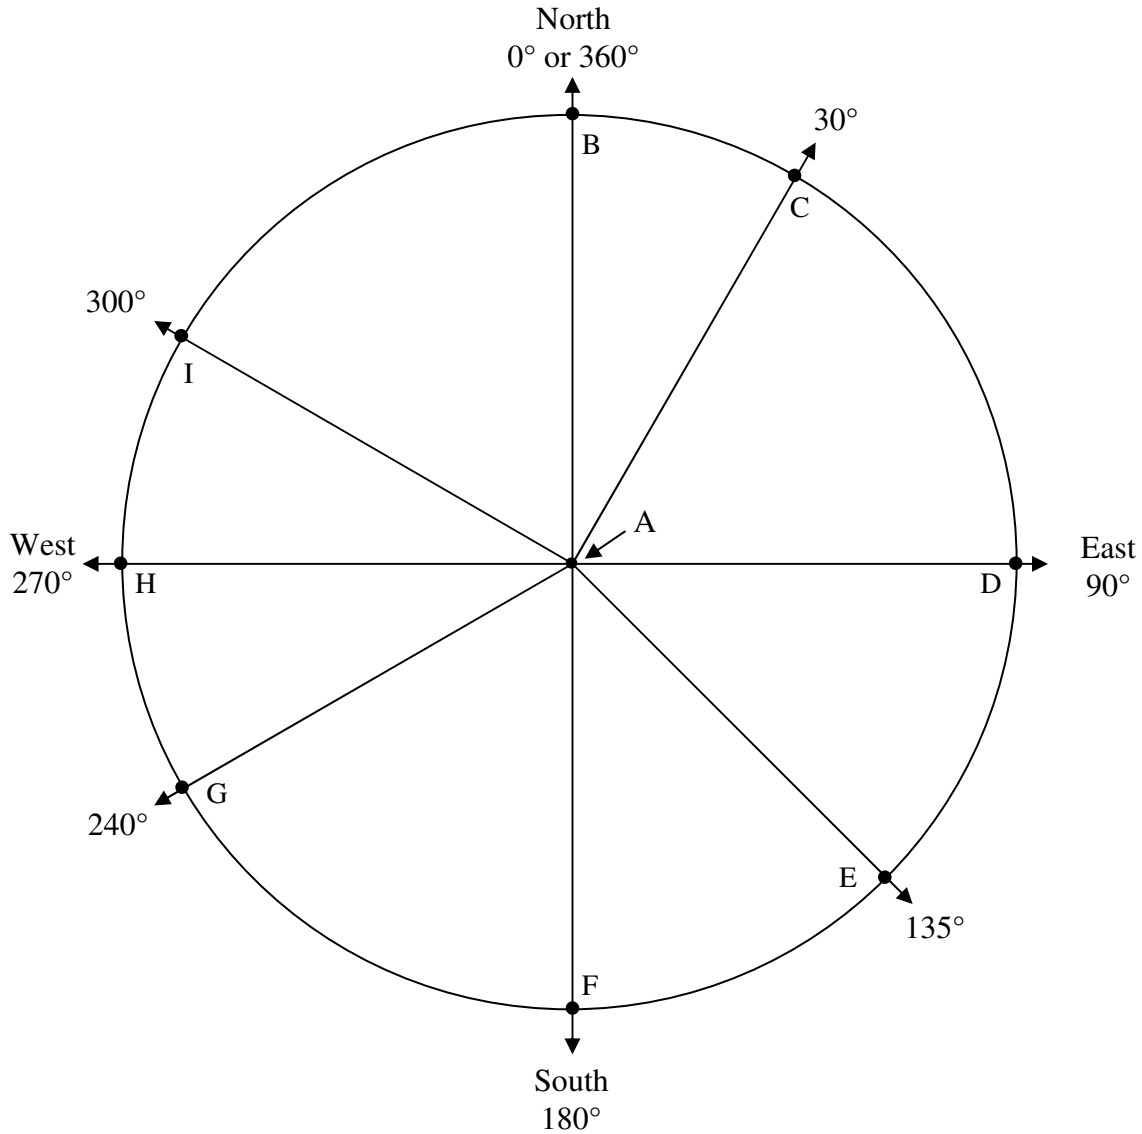

Figure 2-2: Bearing circle with directions
Angles are expressed in degrees. There are 360 degrees (or  $360^\circ$ ) in a complete circle, as shown in Figure 2-2. The symbol for angular degrees,  $^\circ$ , is the same symbol we use for temperature degrees.
1. Measuring in a clockwise direction, how many degrees are between the North direction (vector AB) and the East direction (vector AD)? See Figure 2-2.
### Exercise 2-1 (see Figure 2-2)